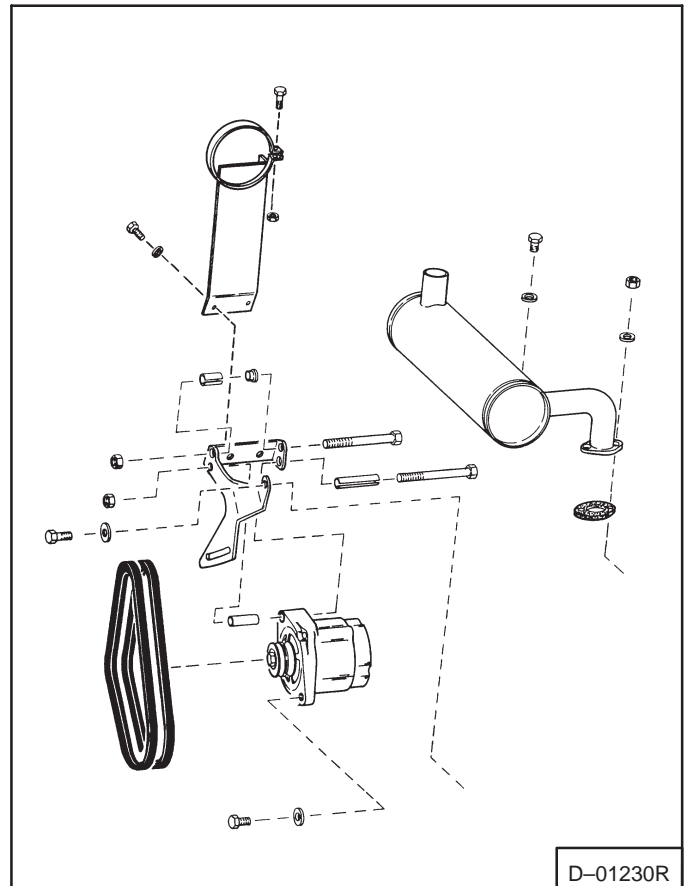

Fig. 1-25a Generator And Bracket Installation (721)
5. The cover for the cooling fan is not giving enough support to the alternator and muffler. To correct this use, bracket, tube, and adapter as shown in (Fig. 1-25a). See current Parts Manual to order these parts.